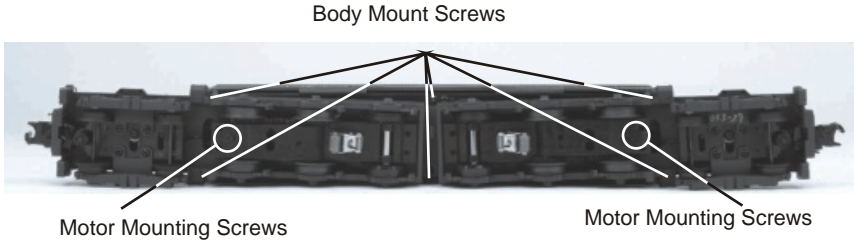

Figure 3. Body Removal Screw Locations
1. To access the gear box, remove the cab from the chassis by unscrewing the body mount screws as seen in Figure 3 and lifting the cab from the chassis.
2. Once the cab is removed, remove the trucks by unscrewing the black Phillips motor mount screws located on the underside of the drive trucks (see Fig. 3).
1. Remove the body mount screws as shown in fig. 3 on page 10.
3. Then remove the motor mount screw as shown in fig. 3 on page 10 and separate the motor from the gearbox by hold the wheels and turning the flywheel until the motor rise up out of the gearbox.